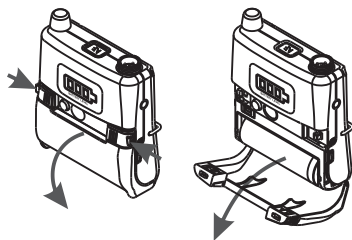

Fig. 34
- (A) Press the side hooks to open battery compartment. Remove the battery carefully, Fig. 34.